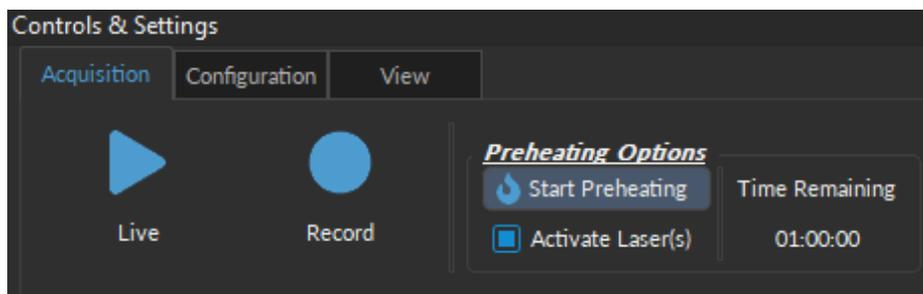

Figure 3.3: Preheat system and Activate Laser
1. For high precision and repeatable results, turn on and **preheat** *FluoPulse™* system (both cube and console) using the dedicated *Preheating Options*. The system must preheat for **at least 60 minutes** to thermally stabilize immediately before acquisition. We generally recommend activating the lasers, as in Fig. 3.3, but see laser warning below.